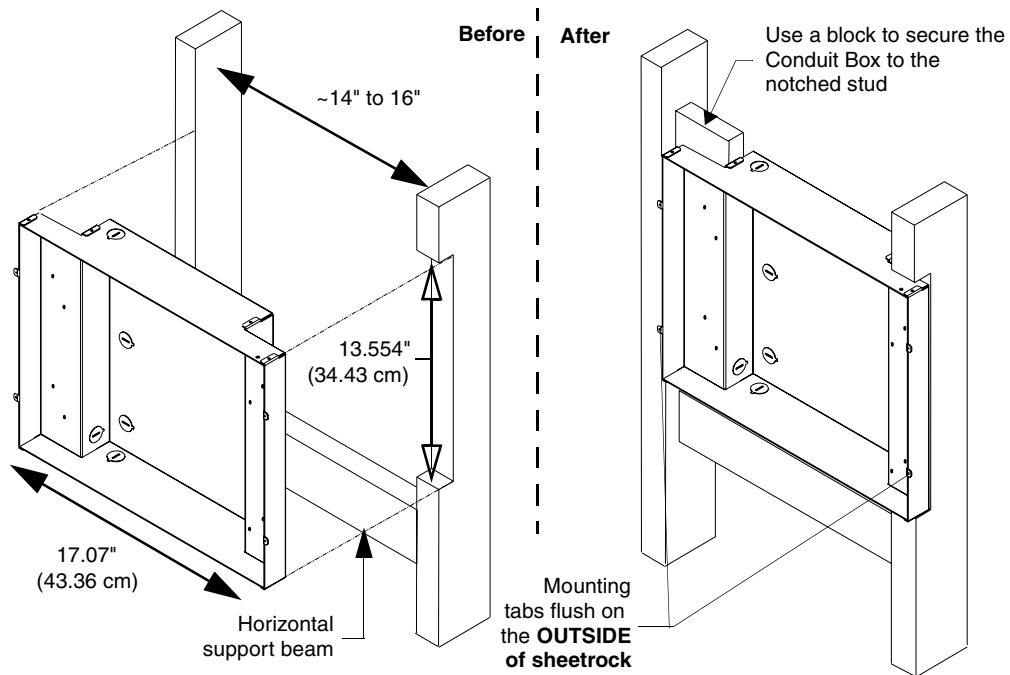

FIG. 55 CB-TP17 conduit box installation into a notched stud (showing before and after installation)
2. Determine whether one or both of the selected stud beams must be notched (FIG. 55). The determining factor is the flush alignment of the mounting tabs along the outside of the **post-wall** sheetrock.
- Cutout the notched beam using a height of 13.554" (34.43 cm) (as shown below in FIG. 55) and a depth *equal to the thickness of the drywall*.